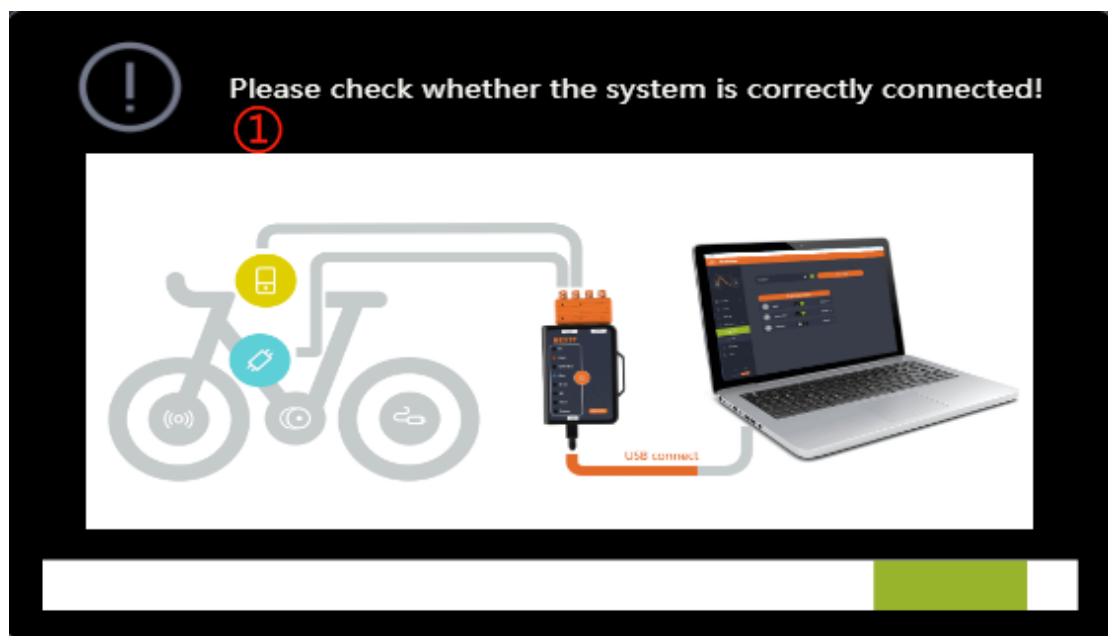

Fig. 3-1 Part inspection
- (1) After logging in, the system will detect the connection of the whole bicycle parts and prompt the user to check whether the system is correctly connected (Fig.3-1);